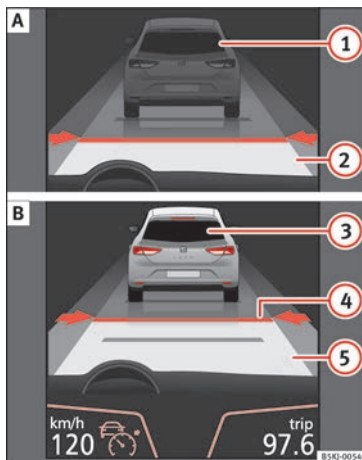
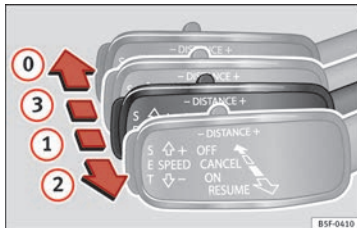
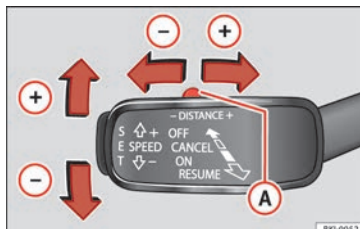

Fig. 194 On the instrument panel display: (A) ACC inactive (Standby). (B) ACC active.
Fig. 196 On the left of the steering column: third lever for operating the Adaptive Cruise Control.
Fig. 197 On the left of the steering column: third lever for operating the Adaptive Cruise Control.
Indications on the display »» **Fig. 194:**
When the Adaptive Cruise Control (ACC) is connected, the green control lamp  will light up on the instrument panel, and the programmed speed and ACC status will be displayed » **Fig. 194**.
» **Fig. 197**. If you wish to increase or reduce speed by intervals of 1 km/h (0.6 mph), move the lever to position **2** or press the » **Fig. 196** button **SET**.
The set speed can be changed when the vehicle is stopped or during driving, as you like. Any modification to the programmed speed will be shown on the bottom left part of the instrument panel display » **Fig. 194**.
To increase/reduce the distance level, press the rocker switch towards the left/right » **Fig. 197** **A**.
- To activate the ACC, press the **SET** button or move the third lever of the ACC to position **2** » **Fig. 196**. At this point, the image of the ACC on the instrument panel display will switch from *Inactive* (Standby) to *Active* mode » **Fig. 194**.
To disconnect the ACC move the lever to the **0** position » **Fig. 196** (engaged). An **ACC deactivated** message appears and the function is totally deactivated.
If you do not wish to disconnect the ACC, just to switch it temporarily to inactive mode (Standby), move the third lever to position **3** » **Fig. 196** or press the brake pedal.